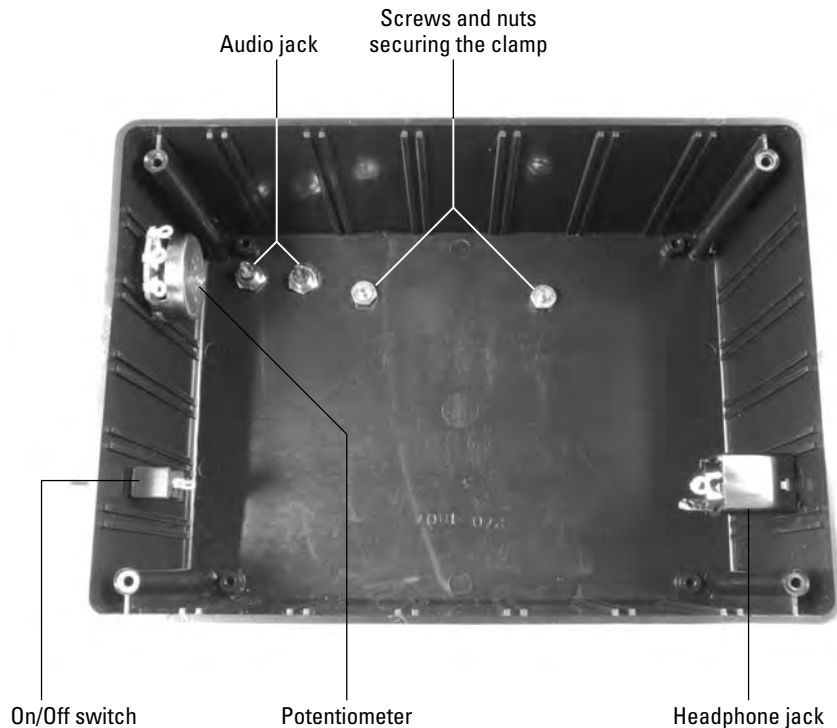

Figure 6-16: Box with on/off switch, potentiometer, headphone jack, clamp, and audio jacks.
1. Drill holes in the box where you will mount the potentiometer, audio jacks, headphone jack, clamp, and on/off switch, as shown in Figure 6-16.